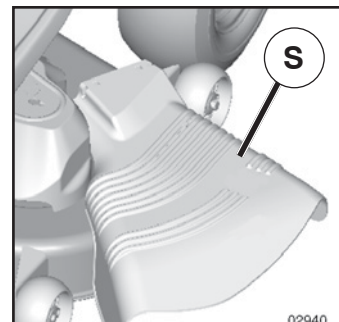

Fig. 10
CAUTION: Do not operate the mower without either the entire grass catcher, on mowers so equipped, or the deflector shield (S) in place (See Fig. 10).